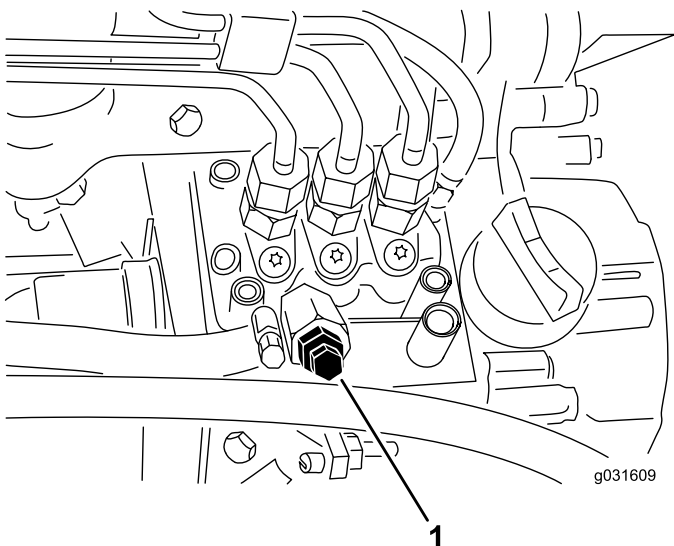

Figure 51
4. Open the air-bleed screw on the fuel-injection pump (Figure 51).